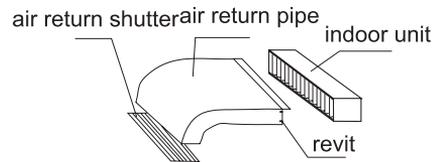

Fig.1
2. Installation of the air return pipe: Connect one side of the air return pipes to the air return port of the indoor units with rivets, with the other side connected to air return shutter, as shown in Fig. 1.